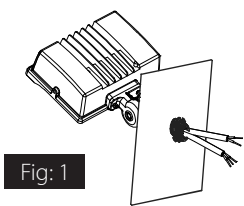

Fig. 1
1. Secure the fixture to a 1/2" NPS hole in the junction box or landscape post as shown in **Fig. 1**. Seal arm thread using Teflon® tape or silicone sealant.